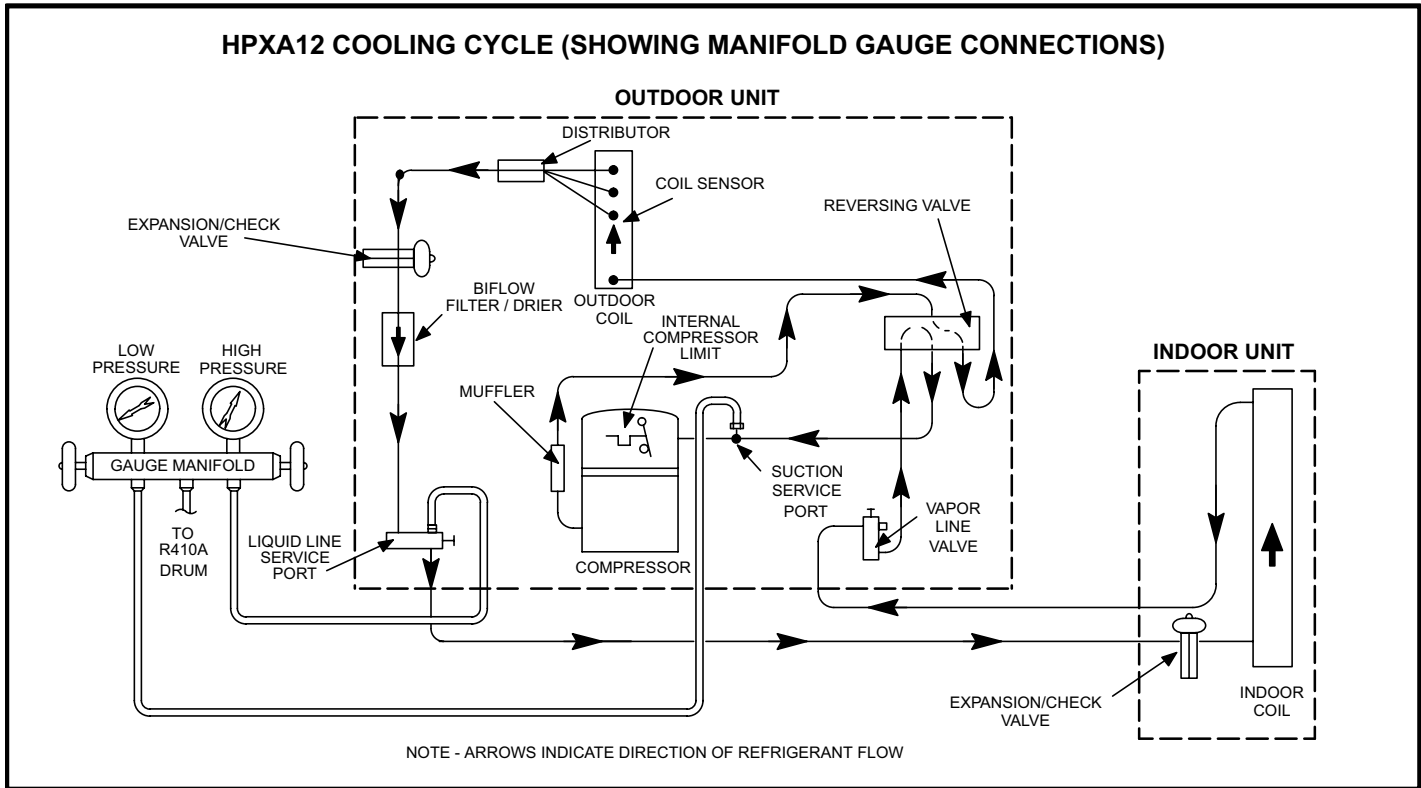

FIGURE 12
Refer to figure 12 and 13 for refrigerant flow in the heating and cooling modes. The reversing valve is energized during cooling demand and during defrost.
- 1 - Connect gauge manifold as shown in figure 12. Connect an R410A drum to center port of gauge manifold.